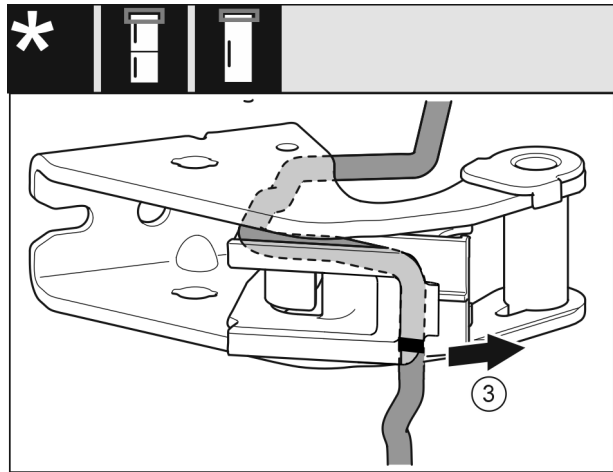

Fig. 27
- ▶ Remove the cable with the cable holder from the bearing bracket. Fig. 27 (3)